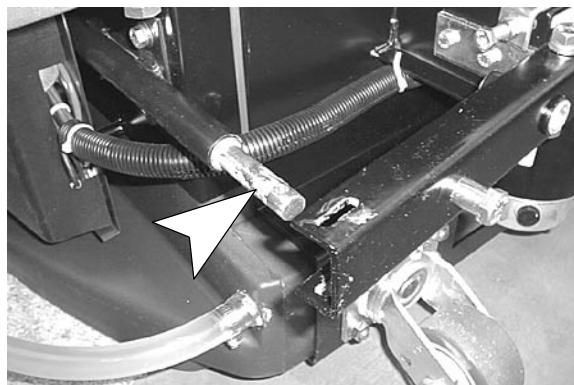

Fig. 3
2. Disconnect the squeegee lift shaft from the squeegee pivot bracket, two 7/16" wrenches required (Figure 3).